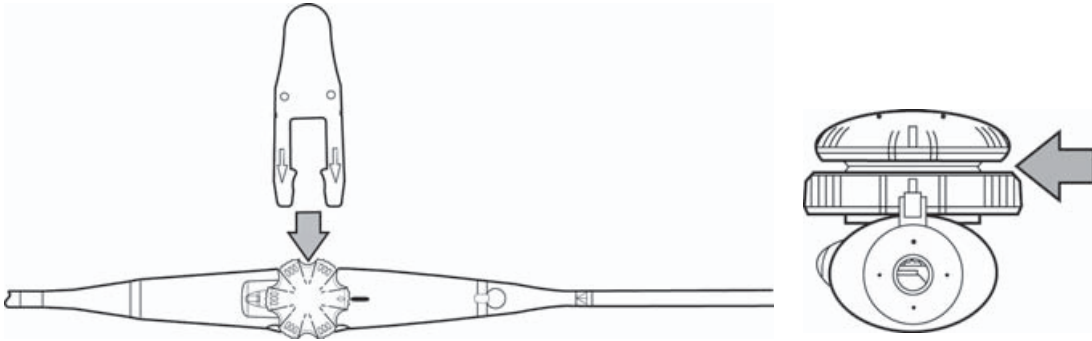

Figure 5-19 Insertion of the puncture test tool
- 1 Insert the puncture test tool under the scan plane controller as shown in **Figure 5-19**.